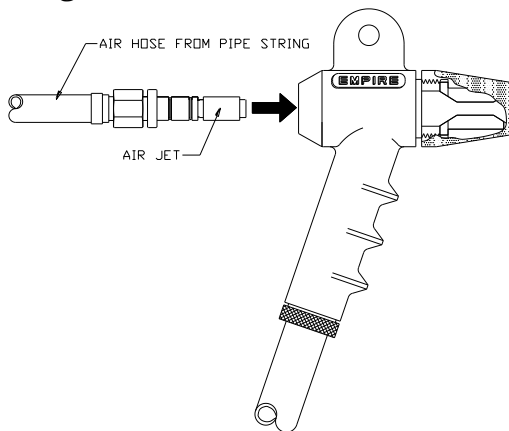

Figure 14. Air Jet
Step 5: Loosen the set screw in the side of the gun body and remove the air jet. See Figure 14.